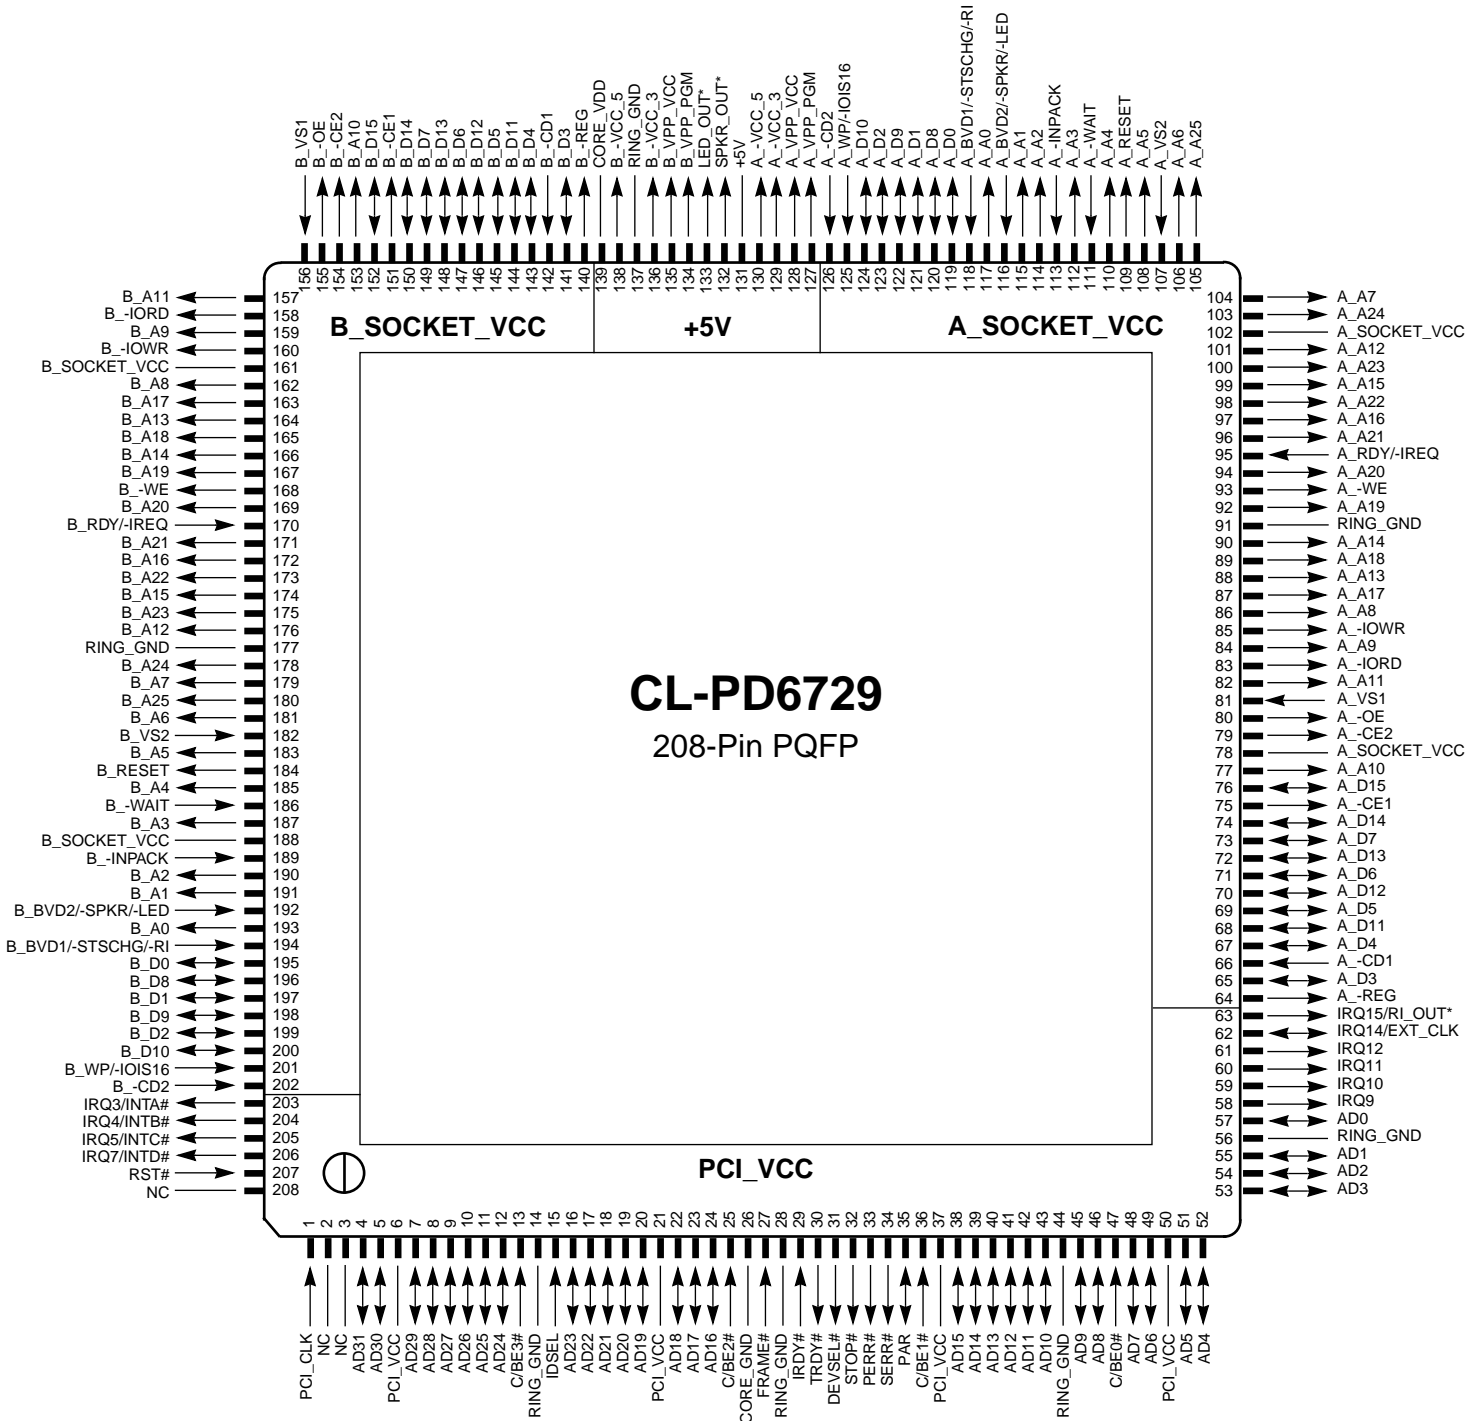

Figure 2-1. CL-PD6729 Pin Diagram
- 2** A_VS1/GPSTB1, A_VS2/GPSTB2, B_VS1/GPSTB1, and B_VS2/GPSTB2 pin names in Figure 2-1 are changed to A_VS1, A_VS2, B_VS1, and B_VS2 accordingly. And in Table 2-2, their pin descriptions are changed from I/O type to I type. IRQ[12:9] pin description in Table 2-1 is changed from I/O type to O type.
Refer to Figure 2-1 for the CL-PD6729 pin diagram. The pin assignments for the groups of interface pins are shown in Table 2-1 through Table 2-4.